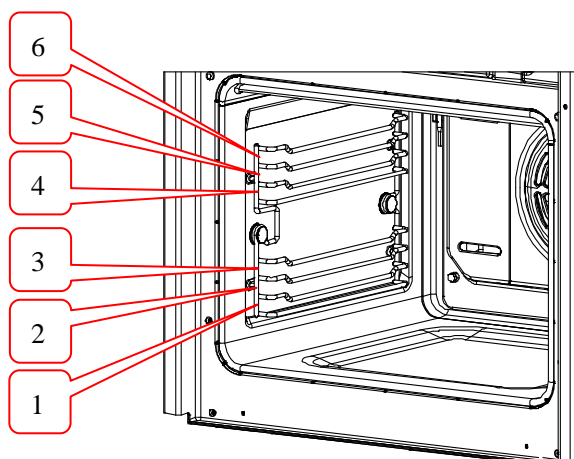

Figure 2
B. Grill rack insertion location (see figure 2):